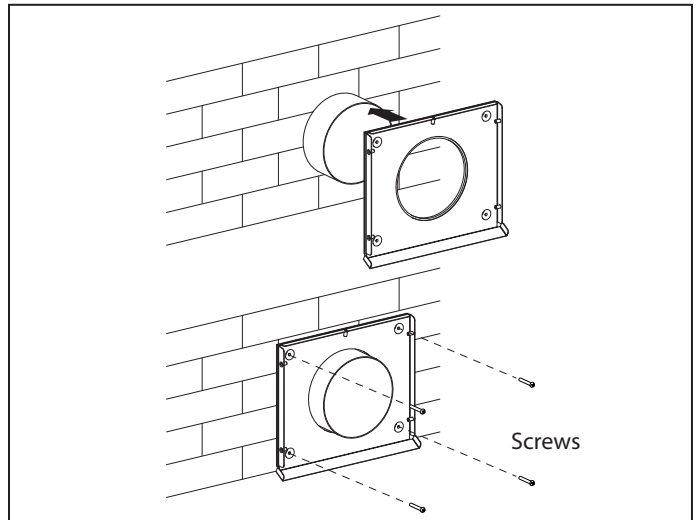

Fig. 13b.
- Fig. 13b - models VENTO A50 S / A50-1 S. Fix the back part of the outer ventilation hood to the wall with the screws 4x40 from the delivery set.